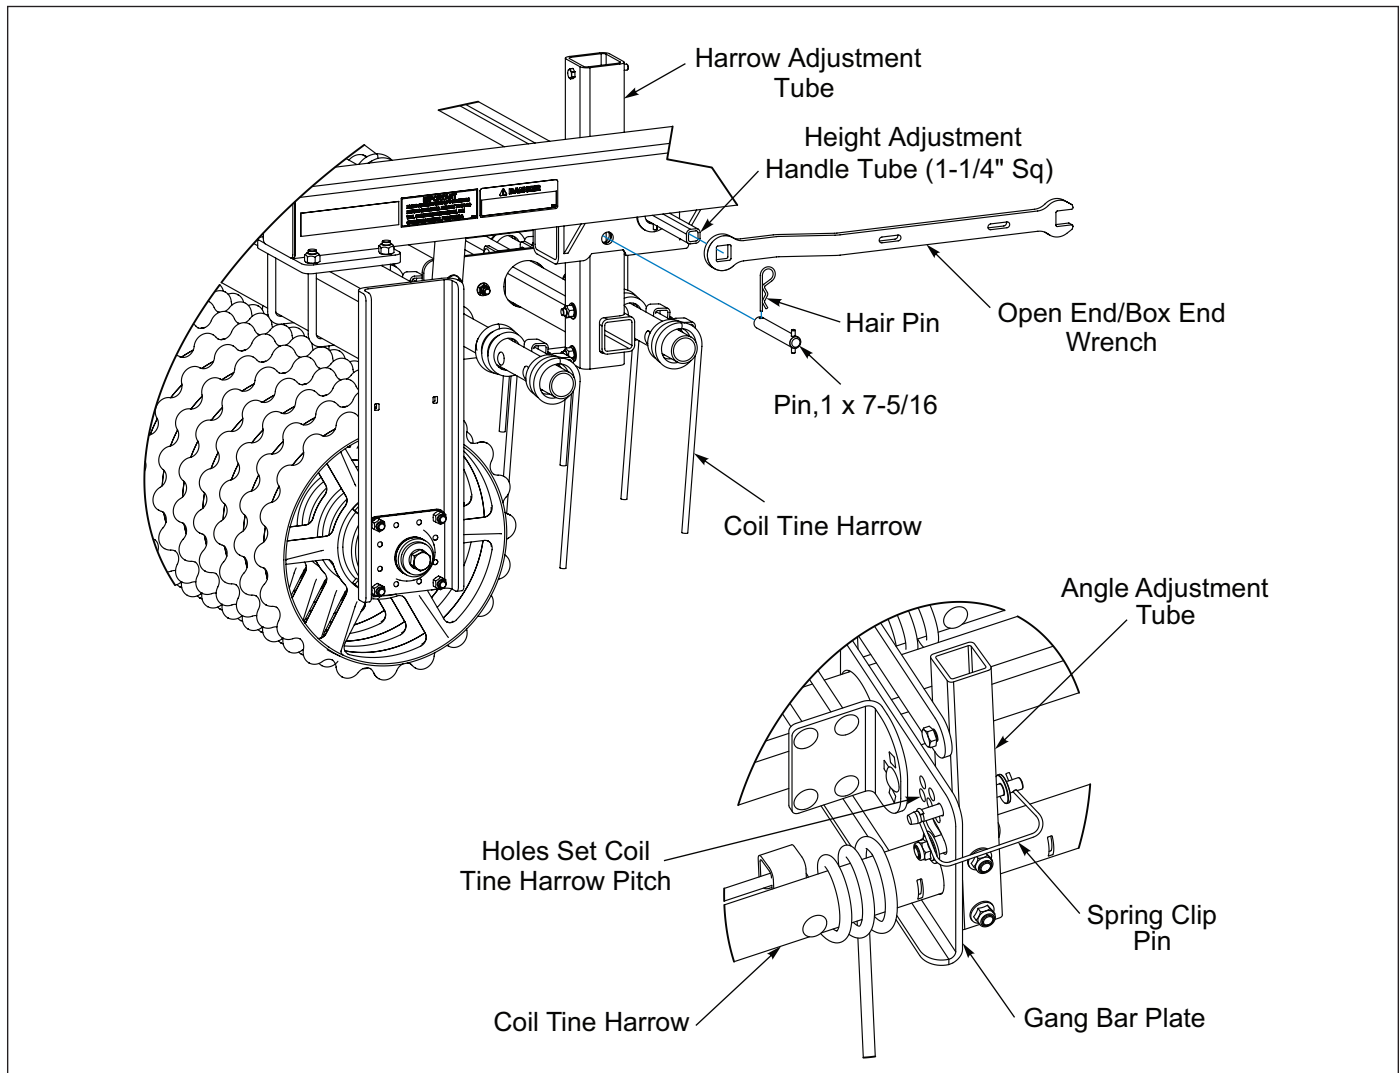

Figure 3-10: Coil Tine Harrow Adjustment
1. Adjust the Harrow Coil Tine pitch at the rear of the implement, by removing the Harrow Adjustment Spring Pins from the Angle Adjustment Tubes and rotating the tube to the desired angle. **See Figure 3-10.**
1. Adjust the Harrow Depth with the open end/box end wrench located on the right side of the frame by the Drawbar. **See Figure 3-10.**